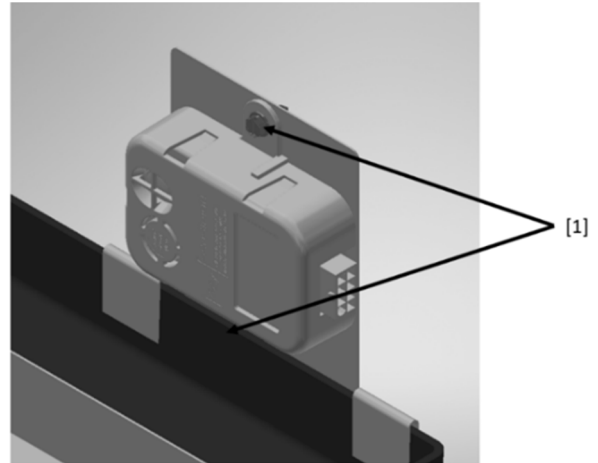

Figure 11 - Sensor Mounting
- 3) Remove installed A2L sensor from bracket by removing two screws as shown in Figure 11. (use existing screws to install new sensor)
- 4) Attach new sensor to bracket using two existing screws. See Figure 11